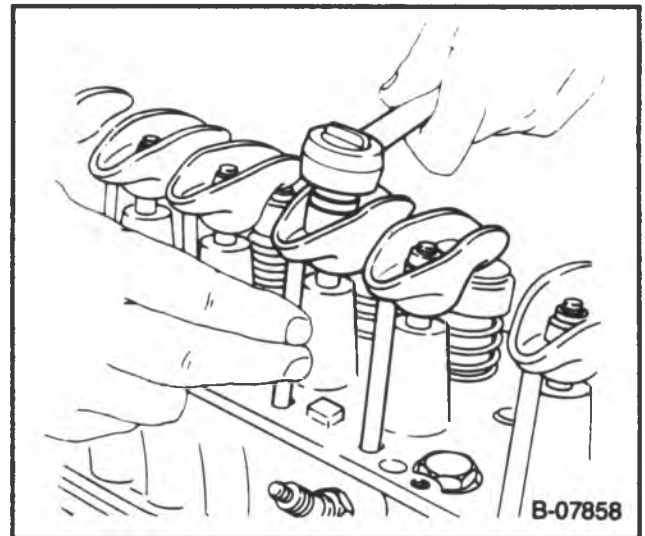

Figure 4 — Adjusting The Valves
2. Rocker arm nut (figure 4).
- c. Back out the adjusting nut until lash is felt at the pushrod, then turn in the adjusting nut until all lash is removed. This can be determined by rotating the pushrod while turning the adjusting nut (figure 4). When play has been removed, turn the adjusting nut in one full additional turn (to center the lifter plunger).